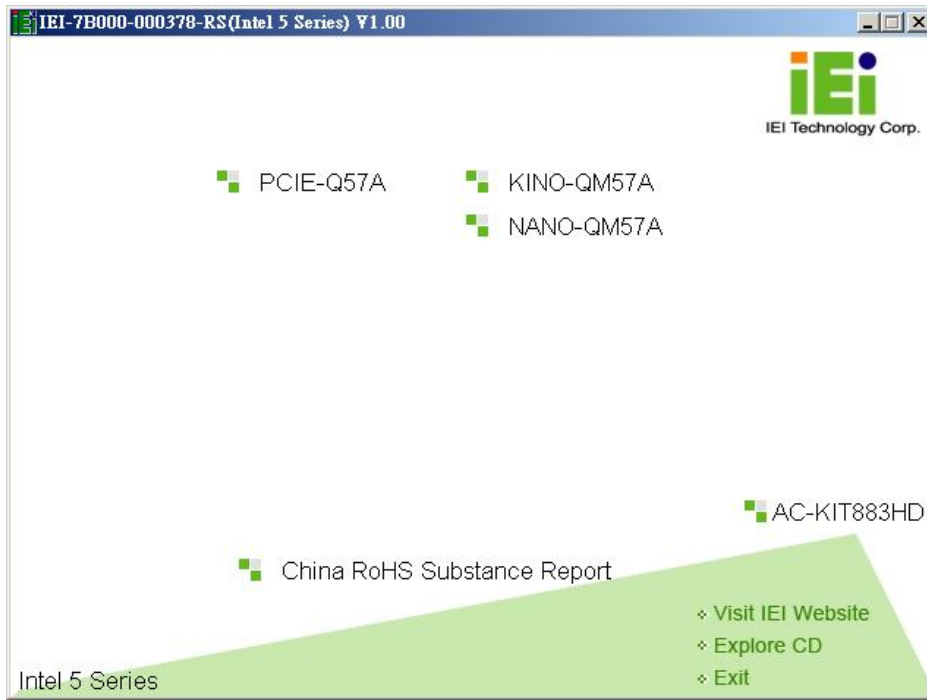

Figure 4-19: Introduction Screen
Step 2: The driver main menu appears (**Figure 4-19**).